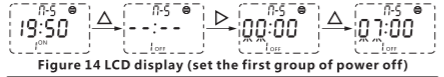

Figure 14 LCD display (set the first group of power off)
3.2.2.6.2 Press the "△" key to enter the timer setting state (1 OFF, first off). The setting is the same as 3.2.2.6.1, as shown in Figure 14. After setting is completed, press "OK" to save.